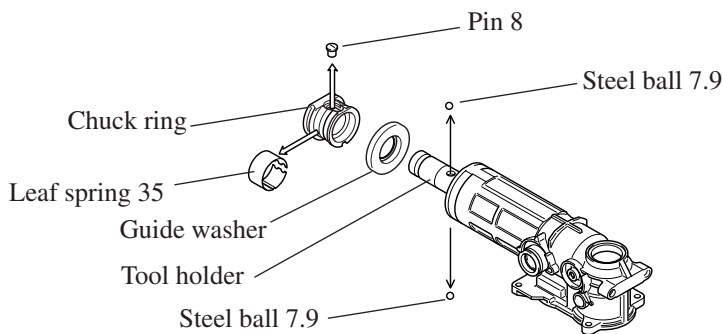

Fig. 18
(3) Take off leaf spring 35 and pin 8 from chuck ring. And then, disassemble chuck ring, 2 pcs. of steel balls 7.9 and guide washer from tool holder as illustrated in Fig. 18.